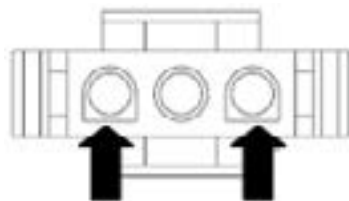

Figure 14
3. Using an ohmmeter, check the continuity across the thermal cut-off. See figures 14 and 15, for location.